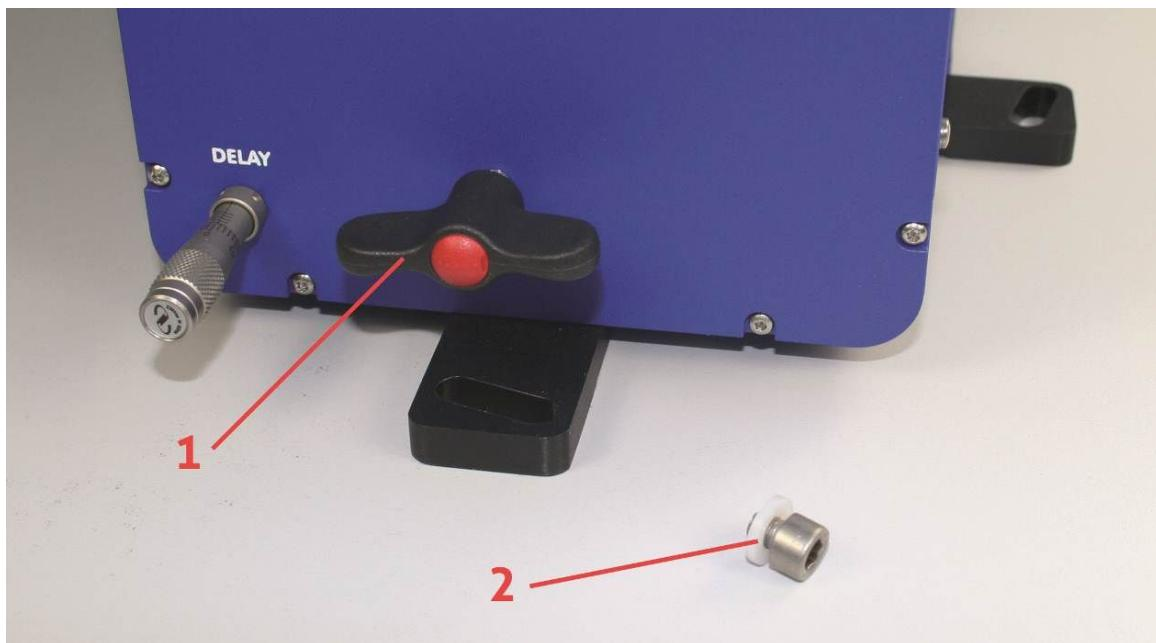

Figure 3.5.: Transportation screw (1) installed (for transportation), not included with *pulseCheck USB 150!*
The optical head is secured by a transportation screw. After unpacking the *pulseCheck* parts please remove screw (1) and replace with cover pin (2) (see Figure 3.5 and 3.6).